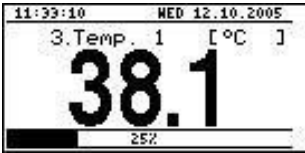

Fig. 6.2. "Single channel" mode
- "Single channel" mode (Fig. 6.2) enables the last measurement for one of the measurement channels to be viewed in the numeric and graphic form (bar).